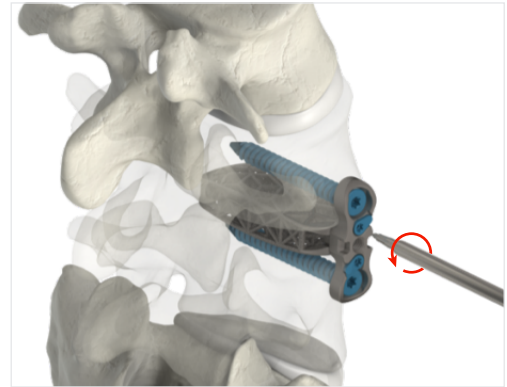

Figure 13
- ▲ After placement of the Screws, rotate the one or two Locking Plates with the Anti-Backout Plate Driver counterclockwise to lock the Screws into the Implant. The wings of the Locking Plate will stop against the recess on the anterior face of the LSTS Plate (Fig. 13).